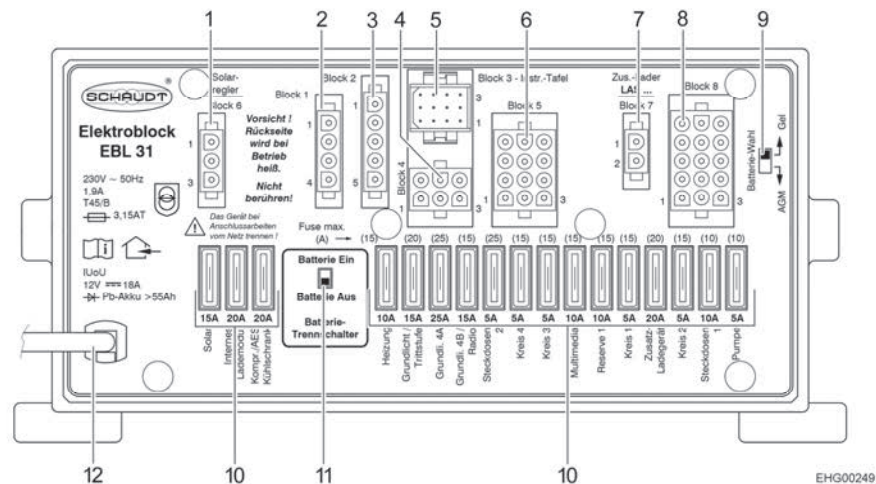

Fig. 78 Transformer/rectifier (EBL 31)
- ▷ Appliances such as the charger, the solar charge regulator, the panel, or similar, take power from the battery, even when the 12 V main switch has been switched off on the panel (Fig. 79,6). Therefore, you switch the battery cut-off switch (Fig. 78,11) on the transformer/rectifier to "Batterie Aus" (battery Off) when the vehicle is not used for a long period of time.